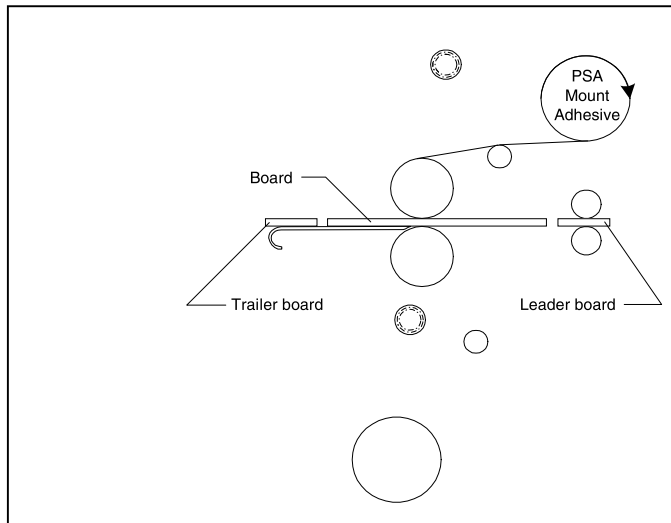

Fig. 37
TIPS FOR PRE COATING BOARDS (Figure 37)
1. Load the laminator as illustrated in Figure 37.